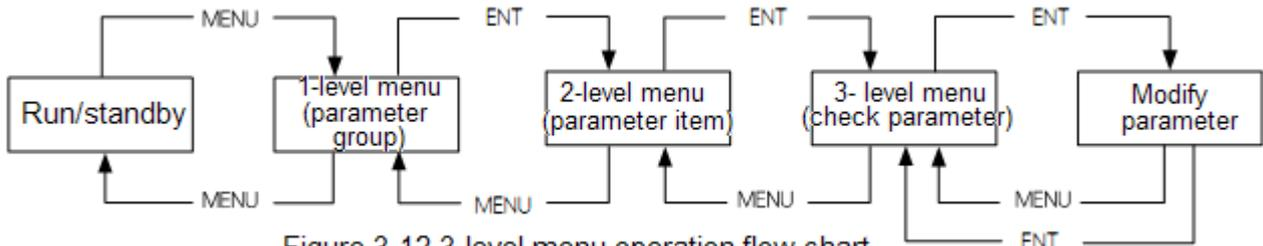
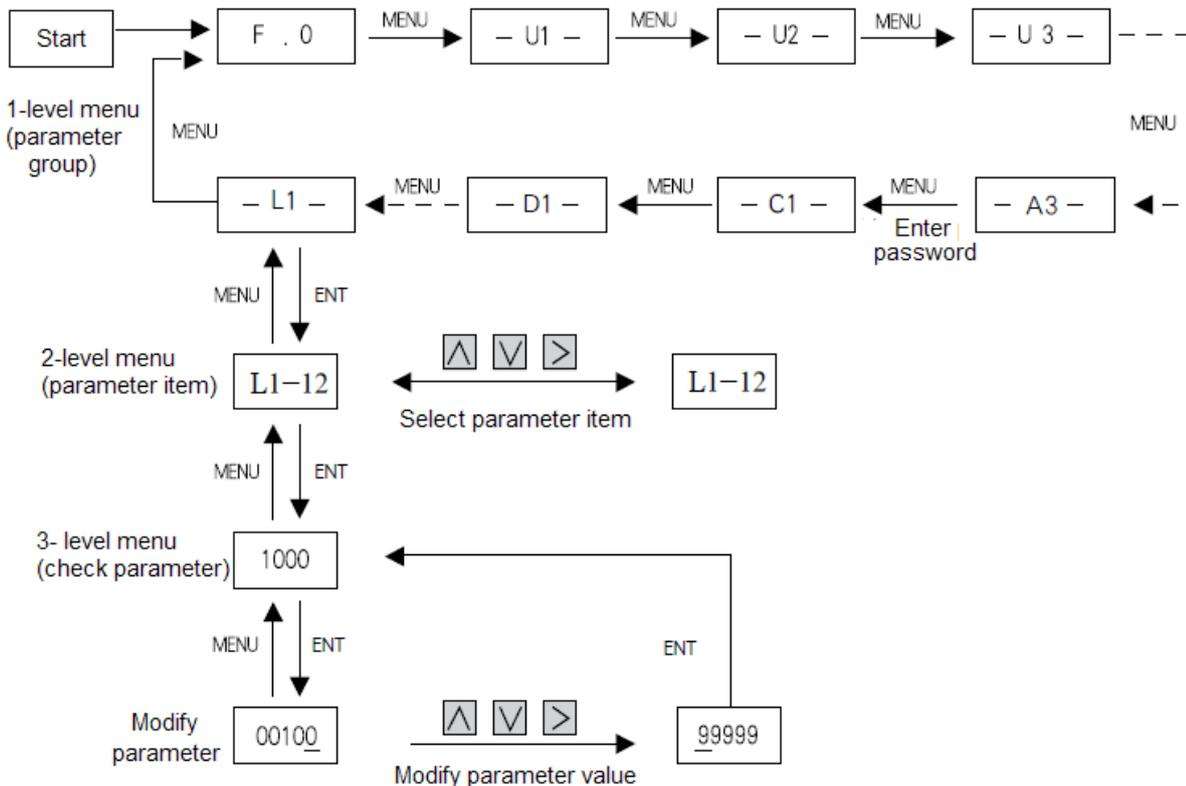

Figure 3-12 3-level menu operation flow chart
Figure 3-13 3-level menu operation flow chart
The three-level menu: menu item (1-level menu), parameter tem (2-level menu) and parameter setting (3-level menu). The operation process is shown in Figure 3-12.
During operation in 3-level menu, user may return to 2-level menu by pressing or (see Figure 3-12 and Figure 3-13). The difference between the two operations: after press ENTER key, the set parameter value will be saved to the controller, and then return to 2-level menu; it will return to 2-level menu directly without saving the parameter value by pressing MENU. The detail operational procedures of 3-level menu are shown in Figure 3-13.
The flow chart of modify the parameters with the manipulator is shown in Figure 3-13.